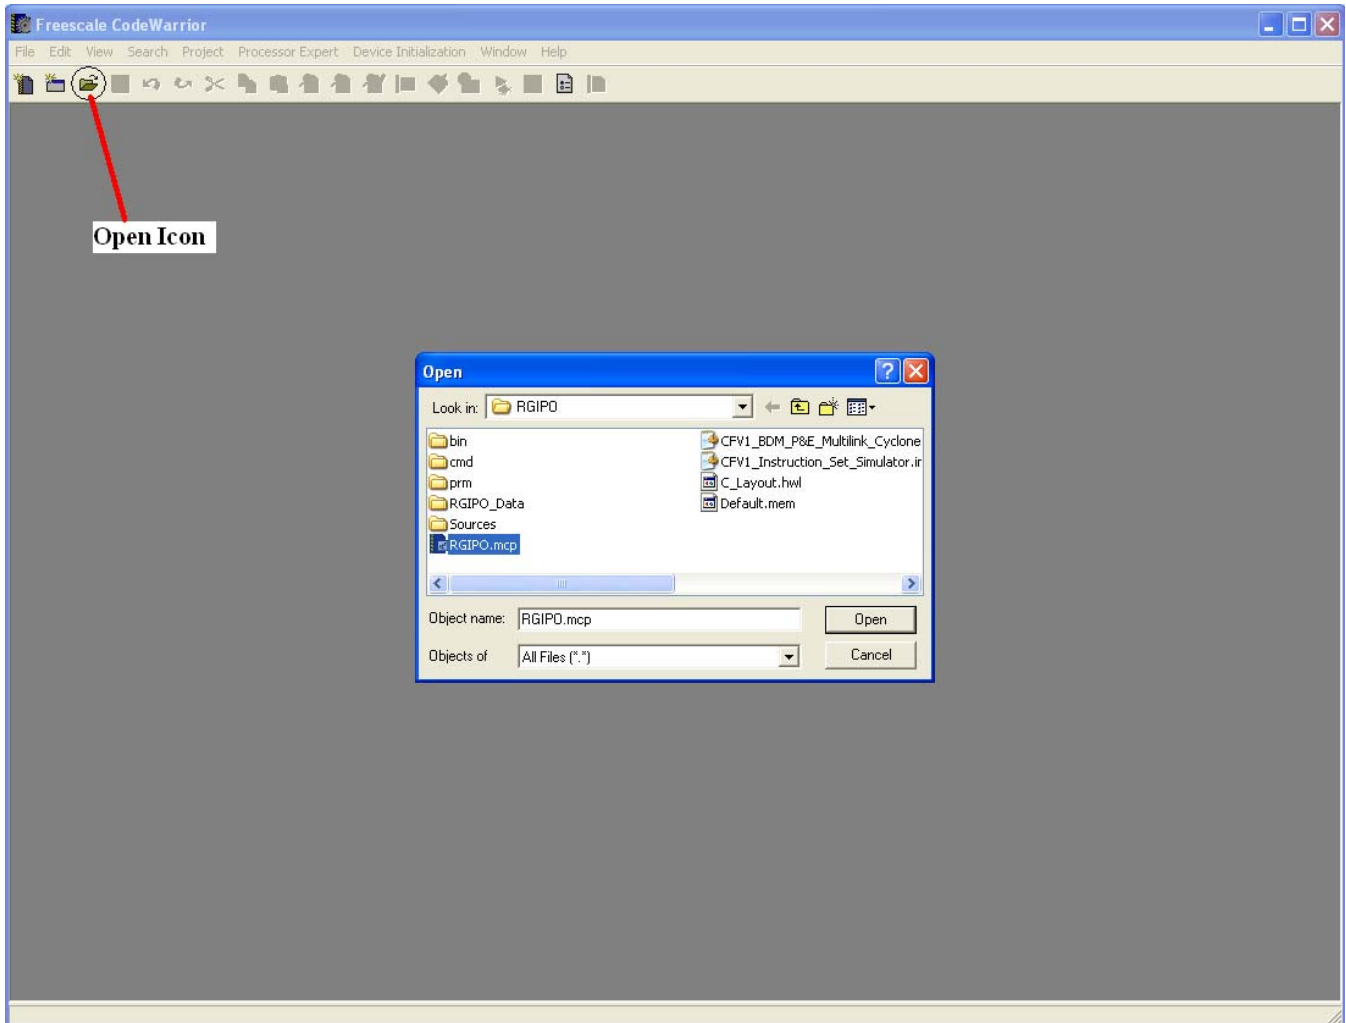

Figure 3-6. Open the Desired Project
2. File -> Open, or click on the Open Icon as shown in Figure 3-6.